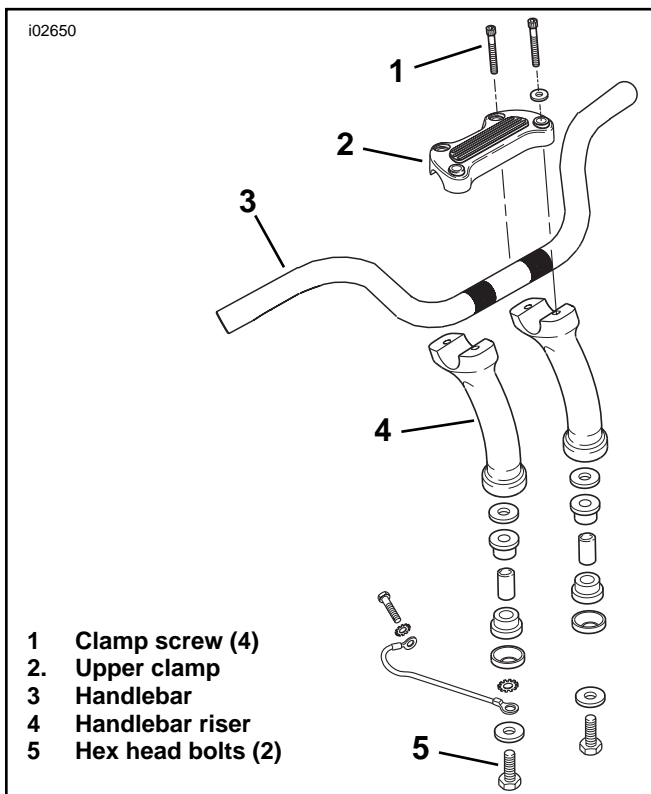
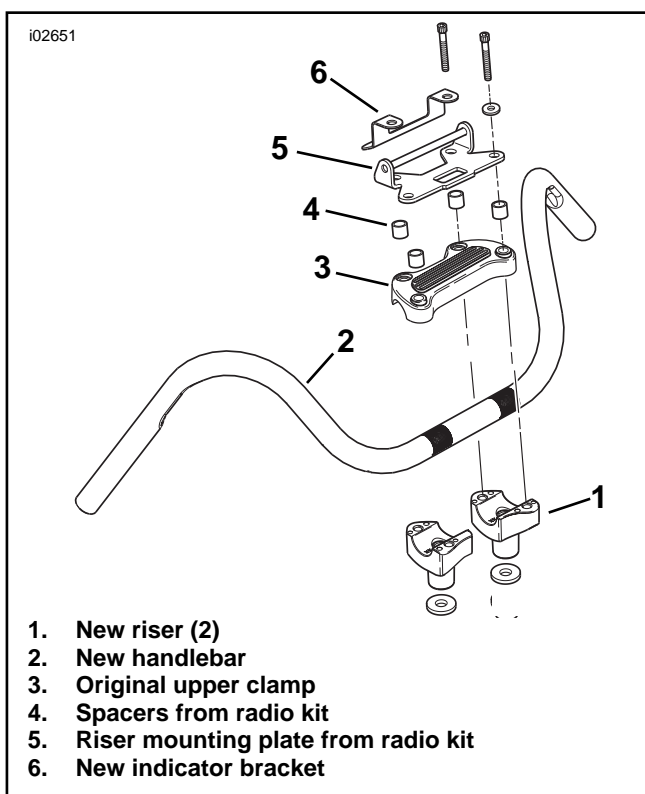

Figure 2. Removing the Original Equipment Handlebar
Figure 3. Replacement Risers and Handlebar
8. See Figure 2. Remove the four hex socket head screws (1) retaining the original equipment handlebar upper clamp (2). Save the upper clamp for re-installation. The screws can be discarded.
9. Remove and discard the original handlebar (3).
10. Remove and discard the hex head bolts (5) located underneath the upper fork bracket. Remove and discard the stock handlebar risers (4). Save the remaining hardware, taking note of the positioning and orientation of each item.
11. See Figure 3 and the Service Parts illustration. Align the new risers (17 and 18) from the kit, the saved cup washers, bushings and spacers, and the ground wire (on the right side only). Secure with two **new** hex head bolts (19) and lockwashers (20) from the kit. Tighten to 50-60 ft lbs (68-81 Nm).
12. Remove the indicator lamps (A) from the headlamp bracket. See INDICATOR LAMPS in the Service Manual.
13. Install the rubber boot (2) from **this** kit over the original equipment indicator lamp housing. Install the indicator lamp assembly into the indicator bracket (1) from **this** kit.
14. See Figure 3. Place the new handlebar (2) onto the handlebar risers (1). In the sequence shown, attach the indicator bracket (6), along with the **new** riser mounting plate (5) and spacers (4) from the **radio** kit, and the original equipment handlebar upper clamp (3) removed in Step 8. Snug the upper screws, but do not fully tighten.